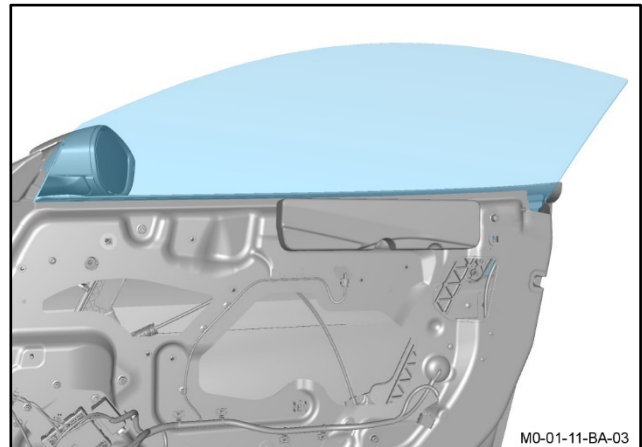

Figure 13
22. Carefully remove the door glass (refer to Figure 13).